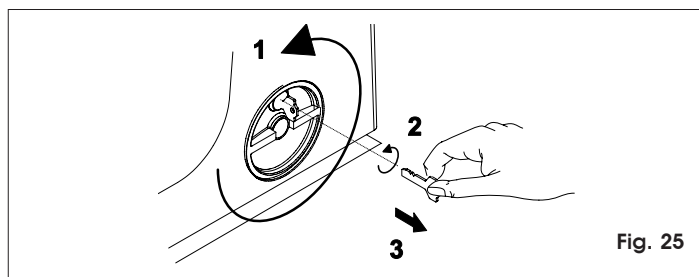

Fig. 25
- 1) Turn the release system by about 180° anti-clockwise, as shown in figure 25.
- 2) Turn the key anti-clockwise and remove it from the lock, as shown in figure 25.